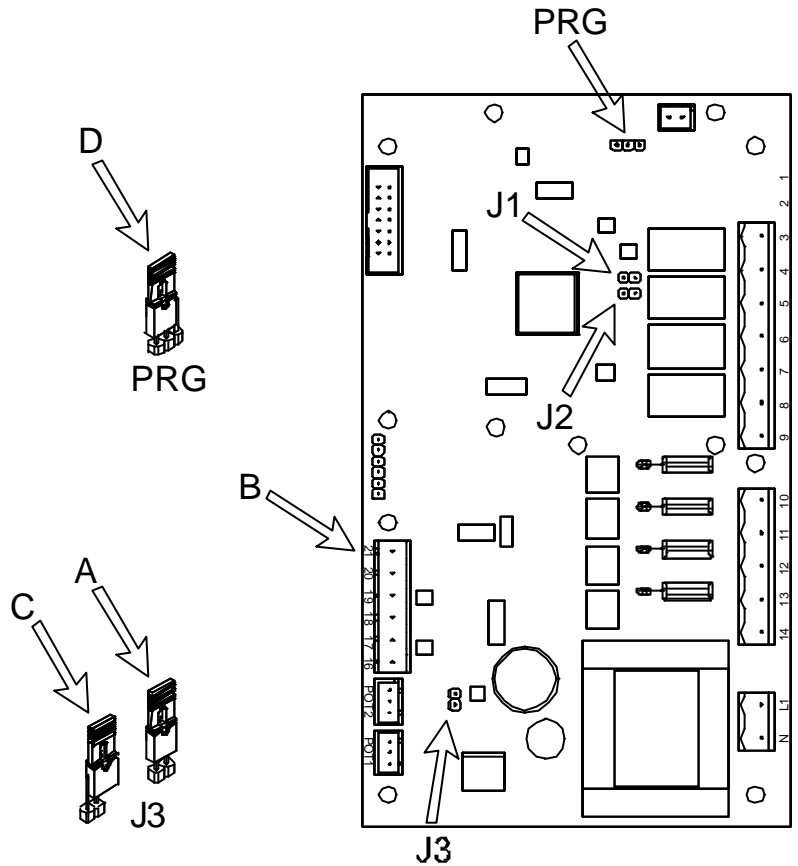

Figure 5r
1) In order for the electronic card to work, jumper PRG should always be jumping the centre pin and the left pin (see fig. 5r, item D).
2) Versions without core temperature probe: the butterfly connector should always be properly inserted in position J3 (see fig. 5r, item A).
Versions with core temperature probe: the butterfly connector should always be properly inserted in position J3 (see fig. 5r, item C).
a) Locate on the electronic card the "J2" jumper shown in fig. 5r.
c) Put the connector shown in fig. 5r on the J2 jumper. The connector can be found on one of the pins.
In the core probe models, the same operation can be carried out with the "set core probe" knob, after extracting the connector from the "J2" position and putting it in the "J1" (fig. 5r) position.
p) After finishing these operations, extract the connector, and insert it on one of the pins, as you found it at the beginning(fig. 5r pos.C). The electronic card automatically returns to its thermostatic function, and the display shows the actual temperature inside the chamber.